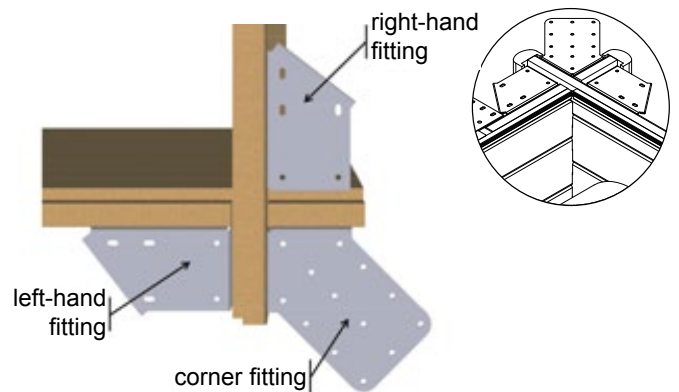

Figure 18 – Mounting the fitting in the corners
The metal fittings are intended to support the coping and allow them to be fixed in position. Make sure that they are correctly positioned. They should be flush with the top of the pool wall and aligned with each other and the coping corbel plates. *Figure 18*
- In each of the corners, mount a right-hand fitting, a left-hand and a corner fitting as shown in *Figure 18* Use 4 safety screws 6 × 20, A2 SS (bag G) per corner fitting 6 safety screws 6 × 20 in A2 SS (bag G) per fitting, that is a total of 64 screws.